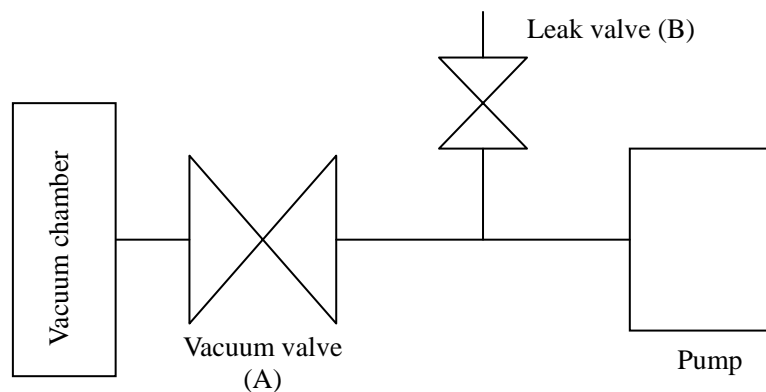

Fig. 5 Basic piping diagram to the vacuum chamber
- (2) Mount vacuum valve (A) and leak valve (B) between the vacuum chamber and pump as shown in Fig. 5.
To start operation, close leak valve (B), open vacuum valve (A) to the inlet port, and turn on the power switch. Then the pump starts to exhaust (see Fig. 5).
To stop operation, close vacuum valve (A), open leak valve (B) quickly, and turn the power switch off (see Fig. 5).